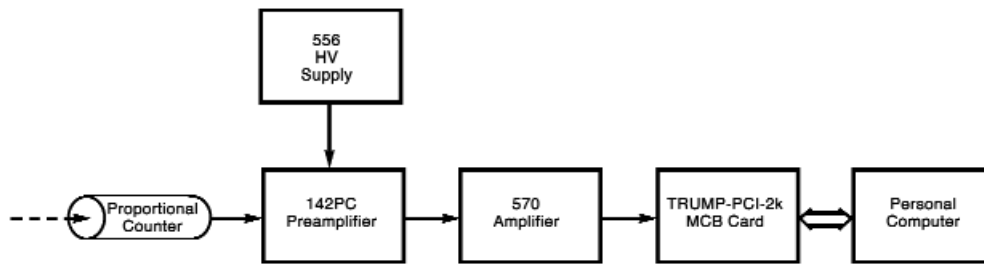

Fig. 6. Pulse-Height (Energy) Spectroscopy with a Proportional Counter.
- Proportional counter (Fig. 6).
In Fig. 6, the low-noise 142PC Preamplifier has about a factor of 6 higher sensitivity than the standard 142IH Preamplifier. This higher sensitivity allows operation of the proportional counter at a lower gas gain. The benefit is less dependence of the gas gain on counting rate in the proportional counter. As a result, the proportional counter can be operated at higher counting rates before peak shifting occurs in the recorded energy spectrum.